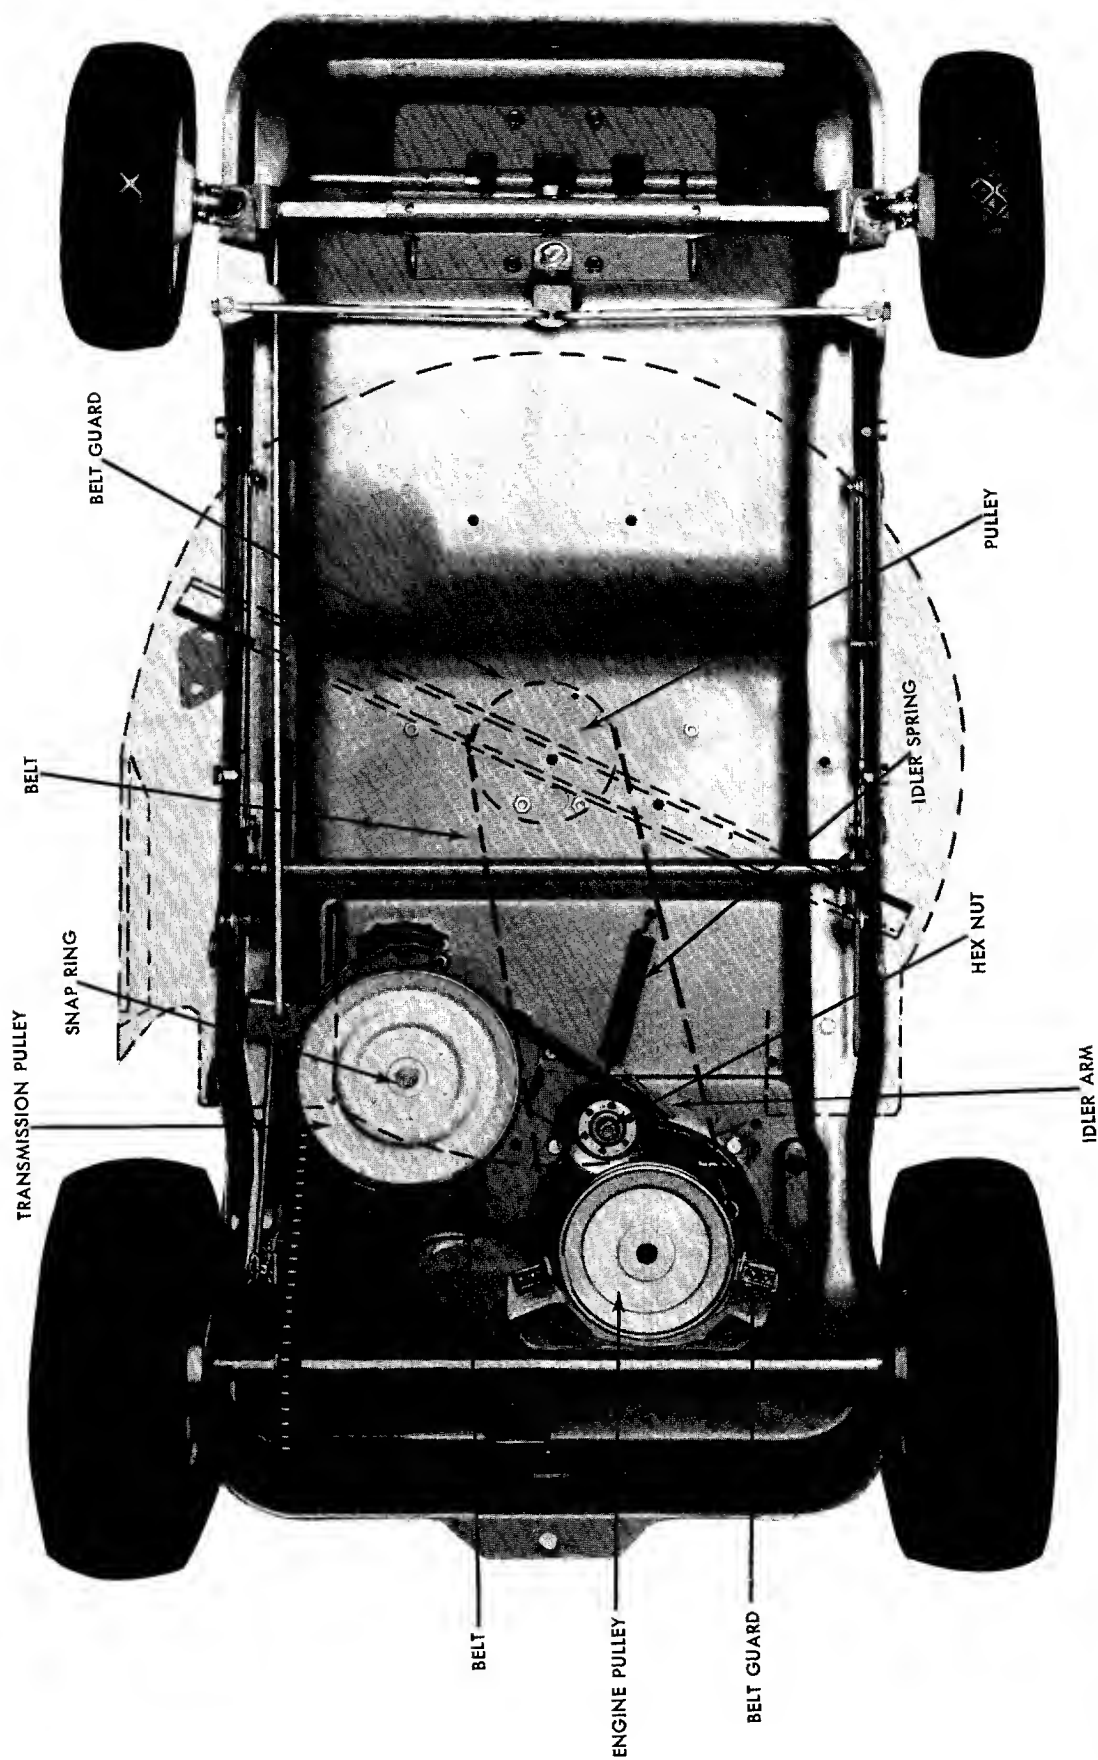

FIG. 15
The deck may be cleaned by tilting the mower on its left side, so that it rests on a block, as shown in Fig. 15. Scrape clean with a suitable tool or by washing with a stream of water from a garden hose. Be sure to disconnect the spark plug wire and ground it while performing this maintenance.
3. Remove engine belt guard. Remove the two rear hex nuts on the engine bolts to remove the engine belt guard and pivot the guard away from the chain and remove. See Fig. 15.
To remove the blade drive belt: (See Fig. 15)
To remove the transmission drive belt: (See Fig. 15)